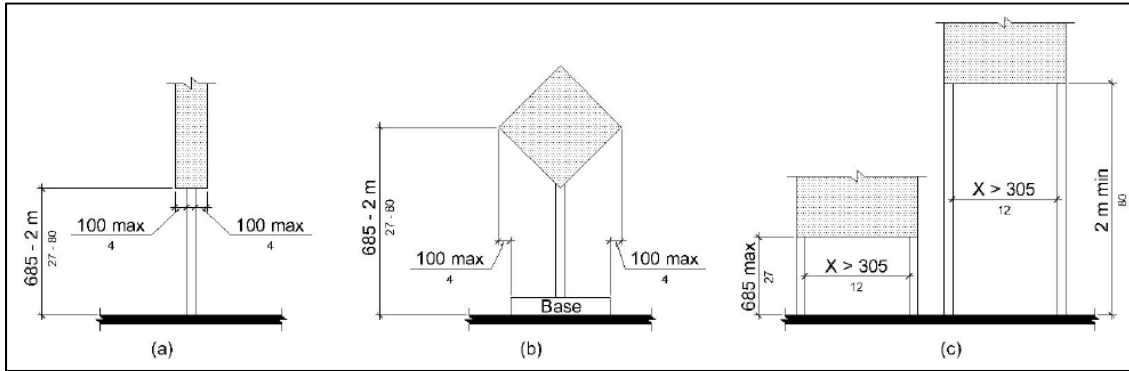

Figure 24 - Post-mounted Object Overhang Allowable Dimensions
- Post-mounted object overhangs do not exceed allowable dimensions in **Figure 24**. *PROWAG 402.3*